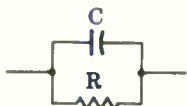

Fig. 38.
*Capacitance and resistance in parallel (Fig. 38)*